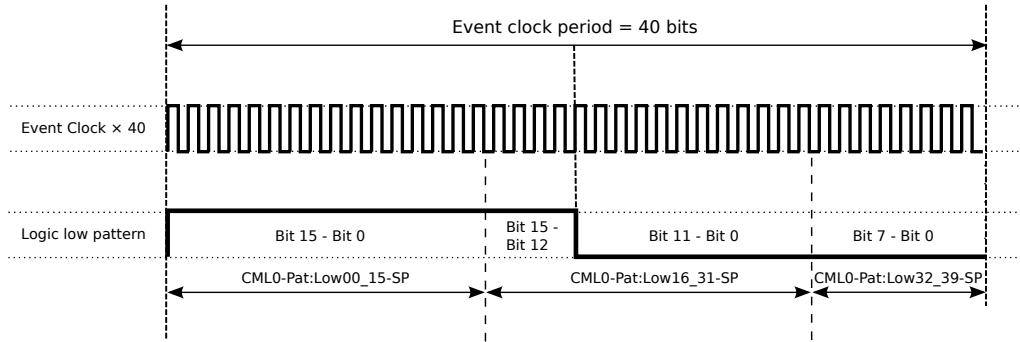

Figure 4: Generate the event clock
This tutorial demonstrates how to configure CML0 output of EVR-VME-300 to generate a clock signal, that has the same phase and frequency as the event clock. To achieve this, the **FrontUnivOut6** output source is set to **logic low** and the CML outputs are enabled. This causes the logic low pattern of the CML pattern mode to be continuously outputted. The configurable pattern, as seen in Figure 4, is 40 bits long and is sent out with a bit rate of 40 times the event clock rate. It is configured to replicate the event clock phase and frequency.
- CML0-Pat:Low00_15-SP=0xFFFF: Set logic low pattern bits 0-15. The Figure 4 shows that the bits 15-0 must be set as follows: 1111 1111 1111 1111, which translates to 0xFFFF. Each bit represents 1/40 of the event clock period.
- CML0-Pat:Low16_31-SP=0xF000: Set signal low pattern bits 16-31. The Figure 4 shows that the bits 15-0 must be set as follows: 1111 0000 0000 0000, which translates to 0xF000.
- CML0-Pat:Low16_31-SP=0x0: Set signal low pattern bits 32-39, as seen in Figure 4. Note, that only bits 32-29 (lower 8 bits) can be used.